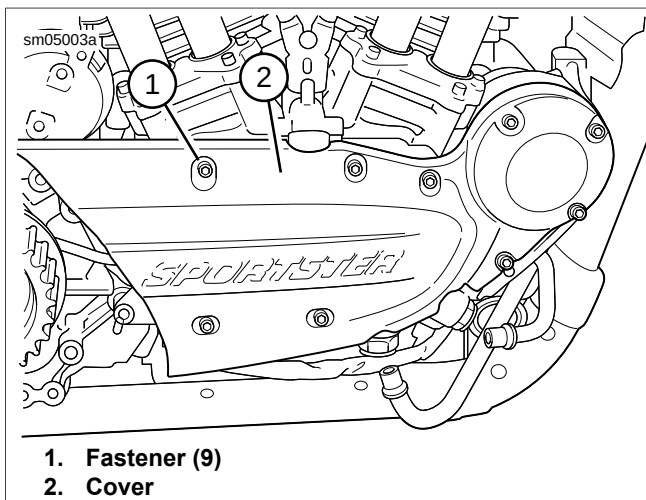

Figure 3-138. Oil Pump Cover: XR 1200X
4. See Figure 3-138. Remove nine fasteners (1) and remove gearcase and oil pump cover (2).